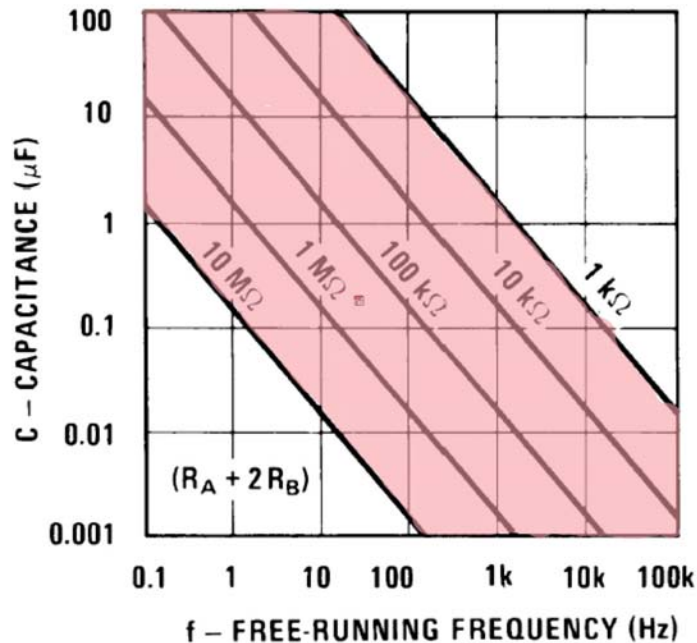

Figure 2 - Capacitance vs. frequency
Step 6). Choose a standard value for the capacitor C by referring to the graph of C vs f , in figure 2